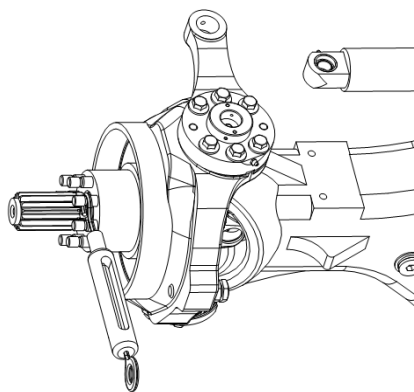

Figure 1
(1) Install the axle shaft assembly into the axle body at first.
(2) Cover the left and right steering knuckle (No. 30 and No. 75) onto the axle shaft assembly and rear axle body (No. 11).
(3) Press the inner ring of angular-contact articulated bearing (No. 41-1) into the lower backing pin (No. 42).
(4) cover the dust trap into the lower backing pin, coat the ball surface on the articulated bearing inner ring (convex) with a thin layer of lubricating grease, align bolt holes and mount the backing pin and rear axle body into the steering knuckle, and tighten the hex flange bolt (No. 43).
(5) Select the appropriate adjustment sheet (No. 29) to set into the left and right steering knuckle arm to adjust the clearance, and thus to guarantee clearance within 0.1.
(6) Coat the outside surface of left and right steering knuckle arm with a thin layer of lubricating grease, align and install the left and right steering knuckle arm bolt holes into the steering knuckle and rear axle body, and tighten the hex flang bolt (No.26).
(7) Measure the starting force of steering knuckle along the tangential direction of steering knuckle stud, and left and right measurement should be measured separately and the starting force should be less than 30N, as shown in Figure 1